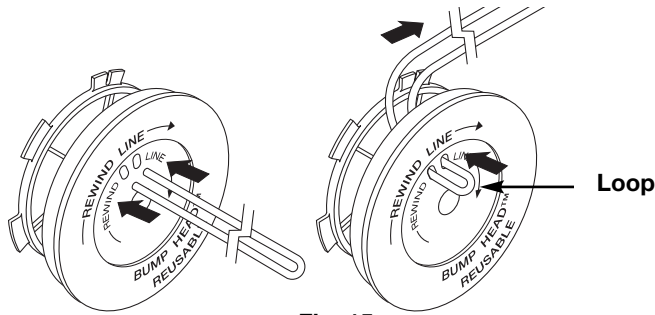

Fig. 15
- Take approximately 20 feet (6 m) of new trimming line, loop it into two equal lengths. Insert each end of the line through one of the two holes in the inner reel (Fig. 15). Pull the line through the inner reel so that the loop is as small as possible.